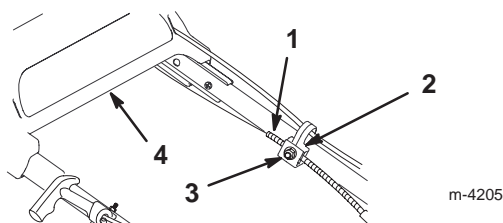

Figure 24
- Loosen the cable support nut (Fig. 24).
- Pull the cable jacket down (toward the lawn mower) to remove all the slack in the cable (Fig. 24).
- While holding the cable jacket down, release the drive bracket and tighten the nut on the cable support (Fig. 24).